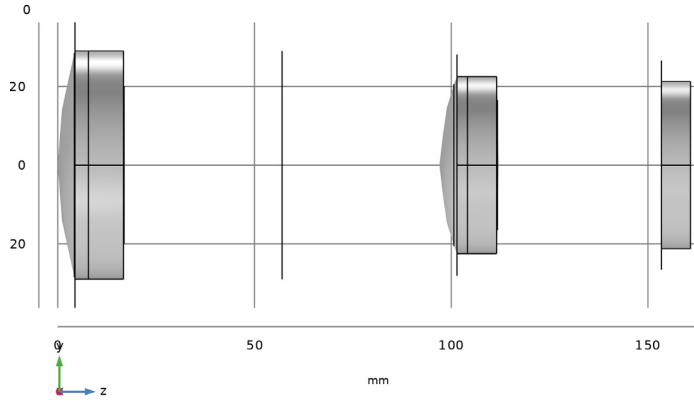
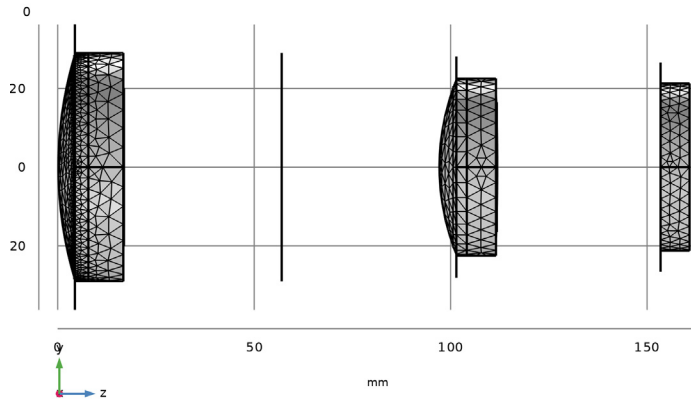

Figure 2: The Petzval lens geometry sequence.
Figure 3: The Petzval lens mesh.
It is important to appreciate that the ray tracing method used by the Geometrical Optics interface is inherently nonsequential, so the same result could be obtained by placing part instances within the geometry in any order. In order to limit the rays to those that reach the focal plane, additional aperture stops and obstructions are added to the geometry. These items can also be placed by using the predefined work planes from each of the lens part instances. The Petzval lens geometry sequence is shown in Figure 2 and the mesh can be seen in Figure 3.
- 9 In the **Graphics** window toolbar, click  next to  **Go to Default View**, then choose **Go to ZY View**. This will orient the view to place the optical axis (z -axis) horizontal and the y -axis vertical. Compare the resulting geometry to Figure 2.